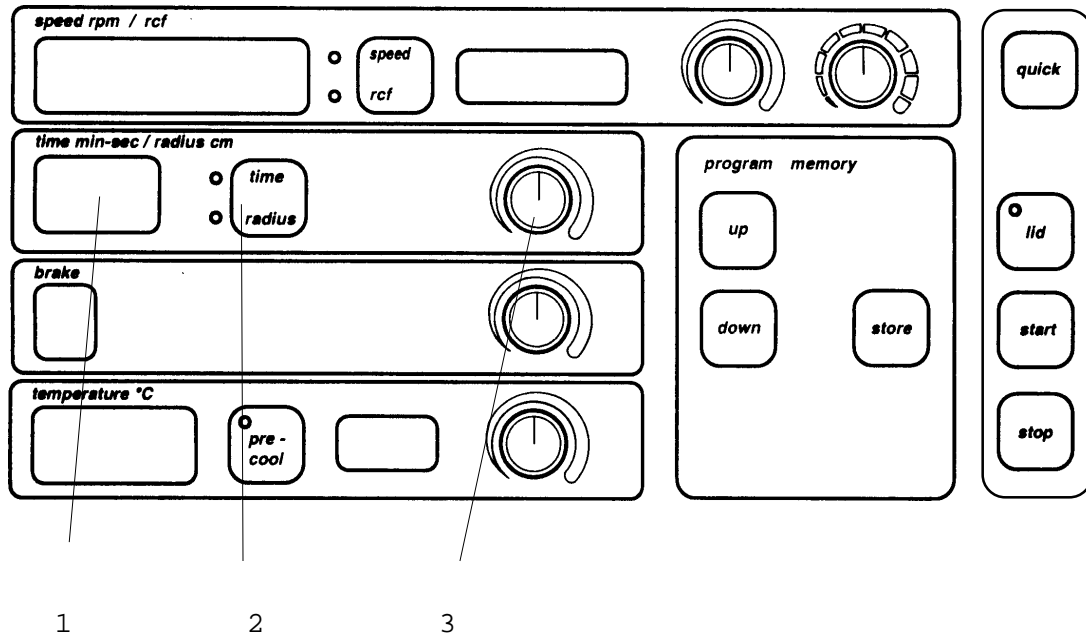

Figure 10
Press down "time/radius" key(2) and hold it (see figure 10). Choose with the adjustment knob (3) the required radius correction value which will be indicated on the digital display (1). Release "time/radius" key (2) and the digital display (1) will show the preset operating time. The preset radius correction value can be checked at any time by pressing "time/radius" key(2).